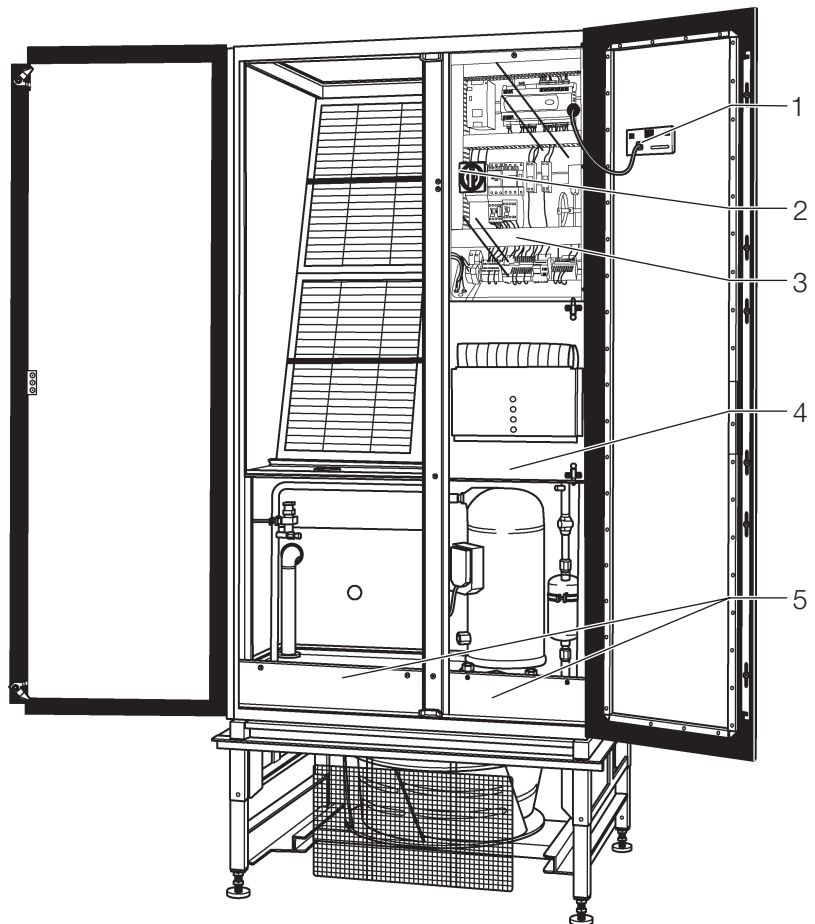

Fig. 27: Covers (DX version in this example)
- Remove the shielding plate under the electrical unit (Fig. 27, item 4):
- Remove the cover plates under the heat exchanger (Fig. 27, item 5):
- Remove the cover plate on the electrical unit (Fig. 27, item 3):
The display connector (Fig. 27, item 1) must be removed first.